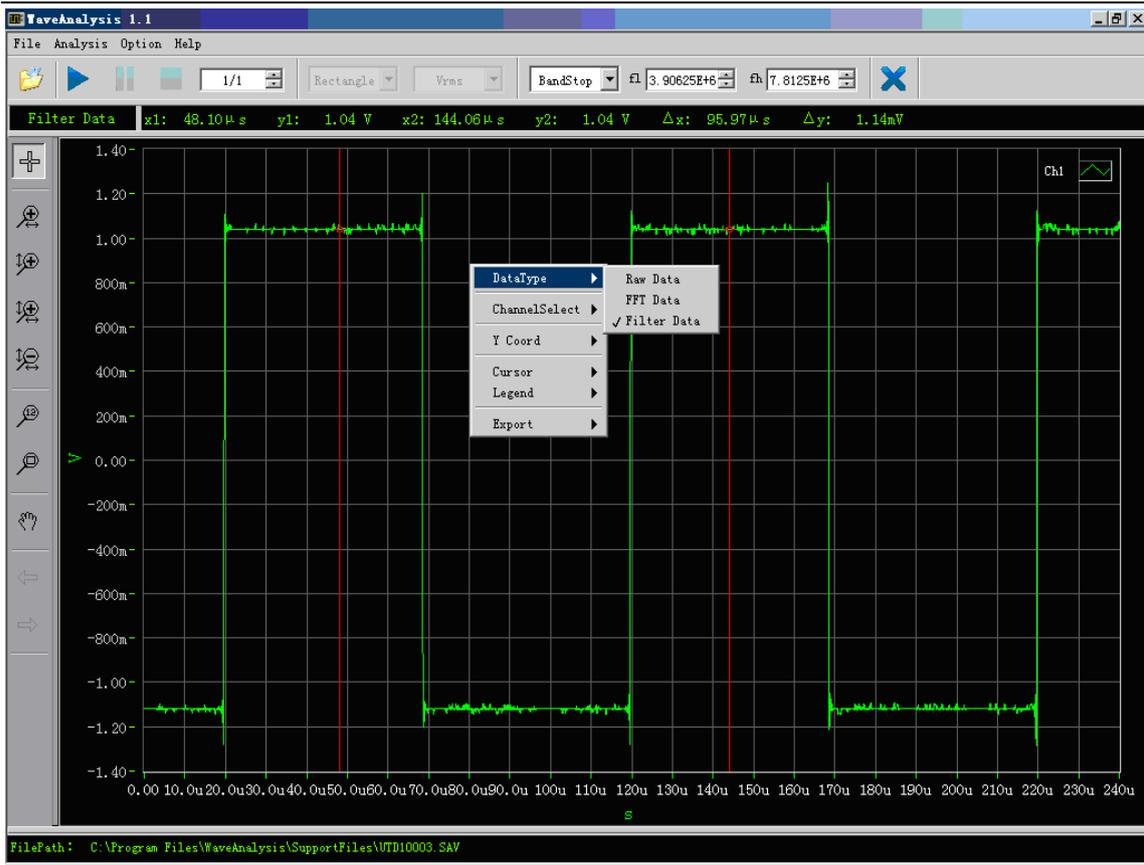

Fig. 3-9 Switching data types
**Note :** To switch between original data, FFT data and filter data, right click the mouse to select the data type menu as shown in Fig. 3-9.